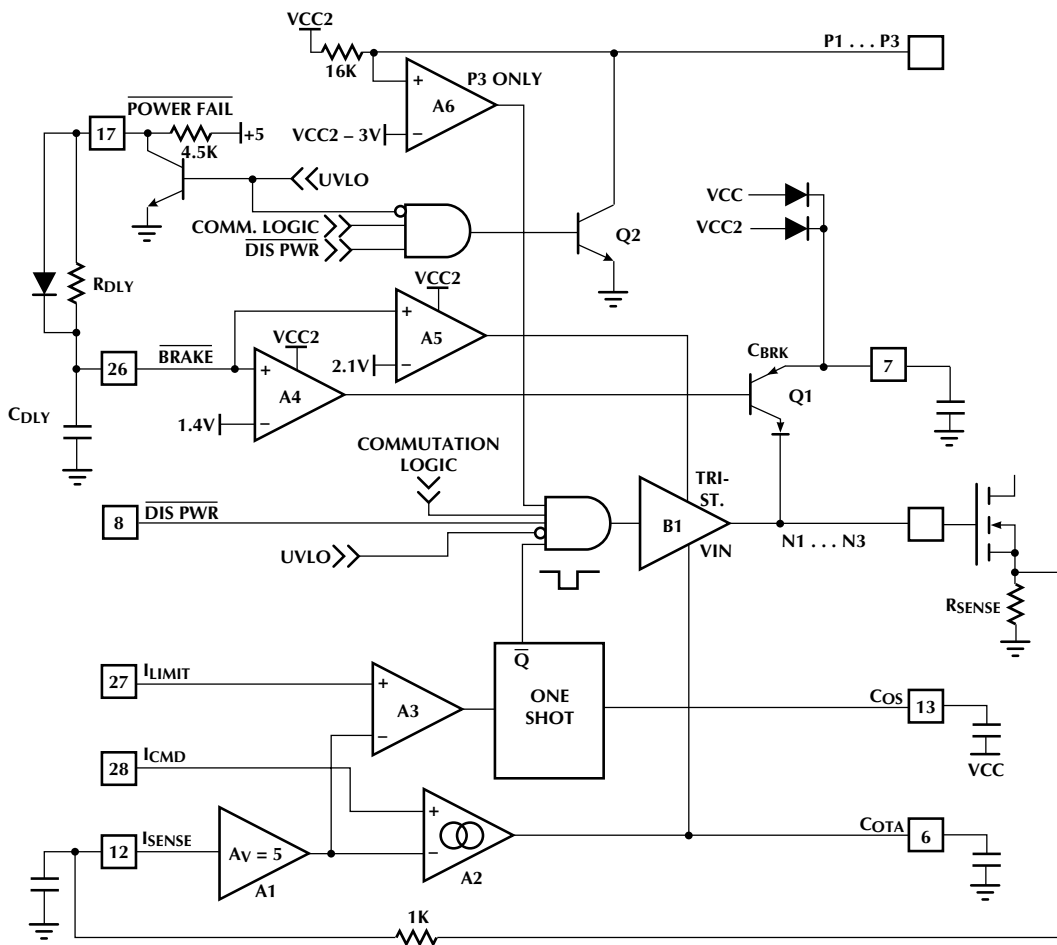
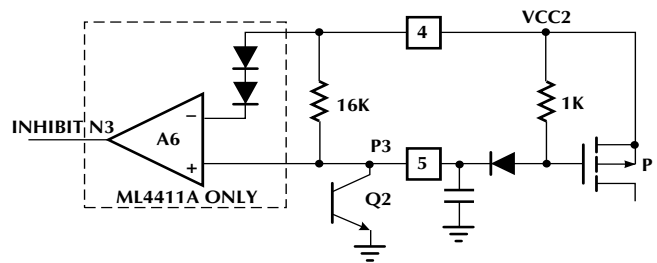

Figure 9. Current Control, Output Drive and Braking Circuits.
Figure 13. Alternate cross-conduction prevention for ML4411A
To facilitate speed control, the ML4411 includes two current control loops — linear and PWM (figure 9). The linear control loop senses the motor current on the  $I_{SENSE}$  terminal through  $R_{SENSE}$ . An internal current sense amplifier's (A2) output modulates the gates of the 3 N-channel MOSFET's when OTA OUT is tied to OTA IN, or can modulate a single MOSFET gate tied to OTA OUT. When operated in this mode, OTA IN is tied to 12V, and N1-N3 are saturated switches. This method produces the lowest current ripple at the expense of an extra MOSFET.
As shown in figure 9, the braking circuit pulls the N-Channel MOSFET gates high when BRAKE falls below a 1.4V threshold. After a power failure,  $C_{DLY}$  is discharged slowly through  $R_{DLY}$  providing a delay for retract to occur before the braking circuit is activated. The N-Channel buffer (B1) tri-states when the BRAKE pin reaches 2.1V to ensure that no charge from  $C_{BRK}$  is lost through the pull-down transistor in B1. To brake the motor with external signals, first disable power by pulling pin 8 low, then pull pin 26 below 1.4V using an open drain (or diode isolated) output.
- When transitioning from mode 0 to mode A (see table 1) P3 goes from on to off at the same time N3 goes from off to on. If the P3 turns off slowly and N3 turns on quickly, cross-conduction may occur. This condition has been prevented inside the IC on the ML4411A through the addition of comparator A6 on the P3 output (Figure 9). This comparator may cause an oscillation when the N3 switches on due to the capacitive coupling effect described below pulling the P3 pin below VCC2-1.4V. To avoid this, use the circuit in Figure 13.